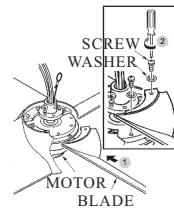

FIG. 3
2. Attached each blade assembly to the motor housing using the blade screws. Tighten them securely.(See fig.3)